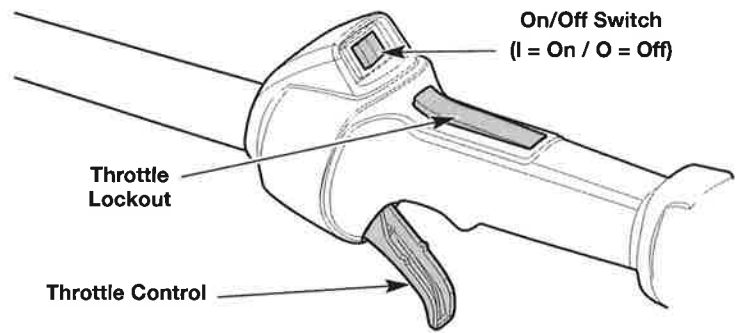

Fig. 7
NOTE: There is no need to turn the unit on. The On/Off switch is in the **On (I)** position at all times (Fig. 7).
NOTE: **DO NOT** squeeze the throttle control until step 8 (Fig. 7).
8. Press and hold the throttle lockout (Fig. 7). Squeeze the throttle control as needed for operation (Fig. 7).
2. Press and hold the On/Off switch in the **Off (O)** position until the engine comes to a complete stop (Fig. 7).
NOTE: There is no need to turn the unit on. The On/Off switch is in the ON (I) position at all times (Fig. 7).
NOTE: DO NOT squeeze the throttle control until step 10 (Fig. 7).
10. Press and hold the throttle lockout (Fig. 7). Squeeze the throttle control as needed for operation (Fig. 7).